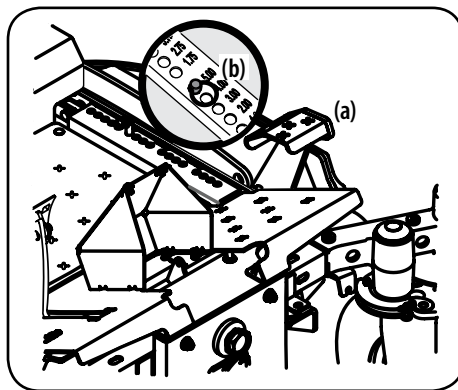

Figure 3-3
1. Use the deck lift pedal (a) to raise the deck to its highest position, place the clevis pin (b) attached to the tractor into the desired index hole on the deck height index, then slowly release the deck lift pedal (a). See Figure 3-3.